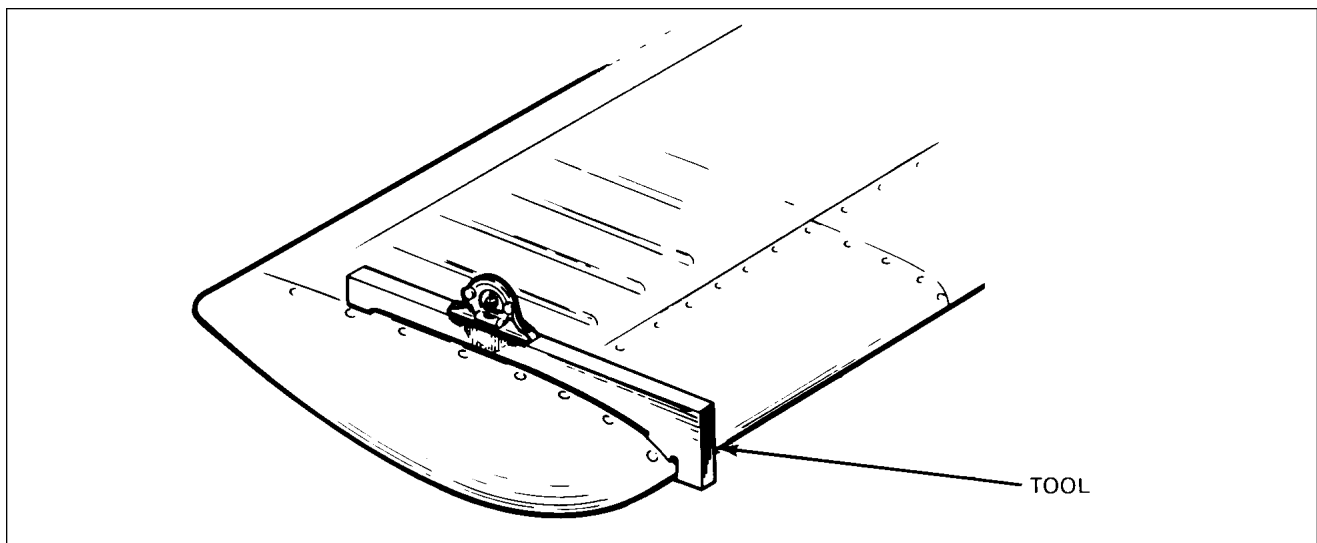
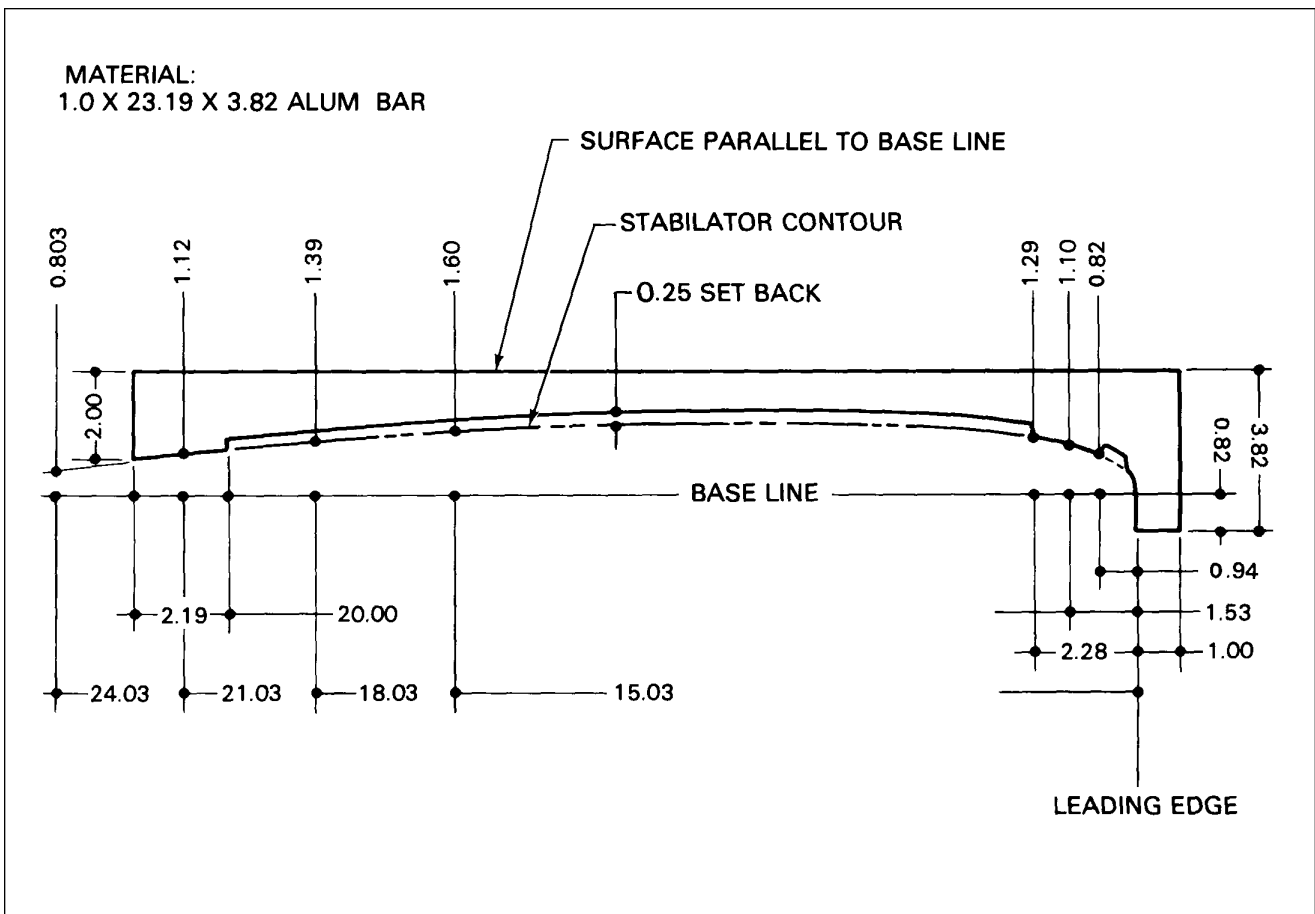

Figure 27-22. Stabilator Rigging Tool
Figure 27-23. Fabricated Stabilator Rigging Tool
- a. To check the stabilator travel, place rigging tool on upper surface of stabilator as per Figure 27-22. (Make tool per dimensions given in Figure 27-23.)